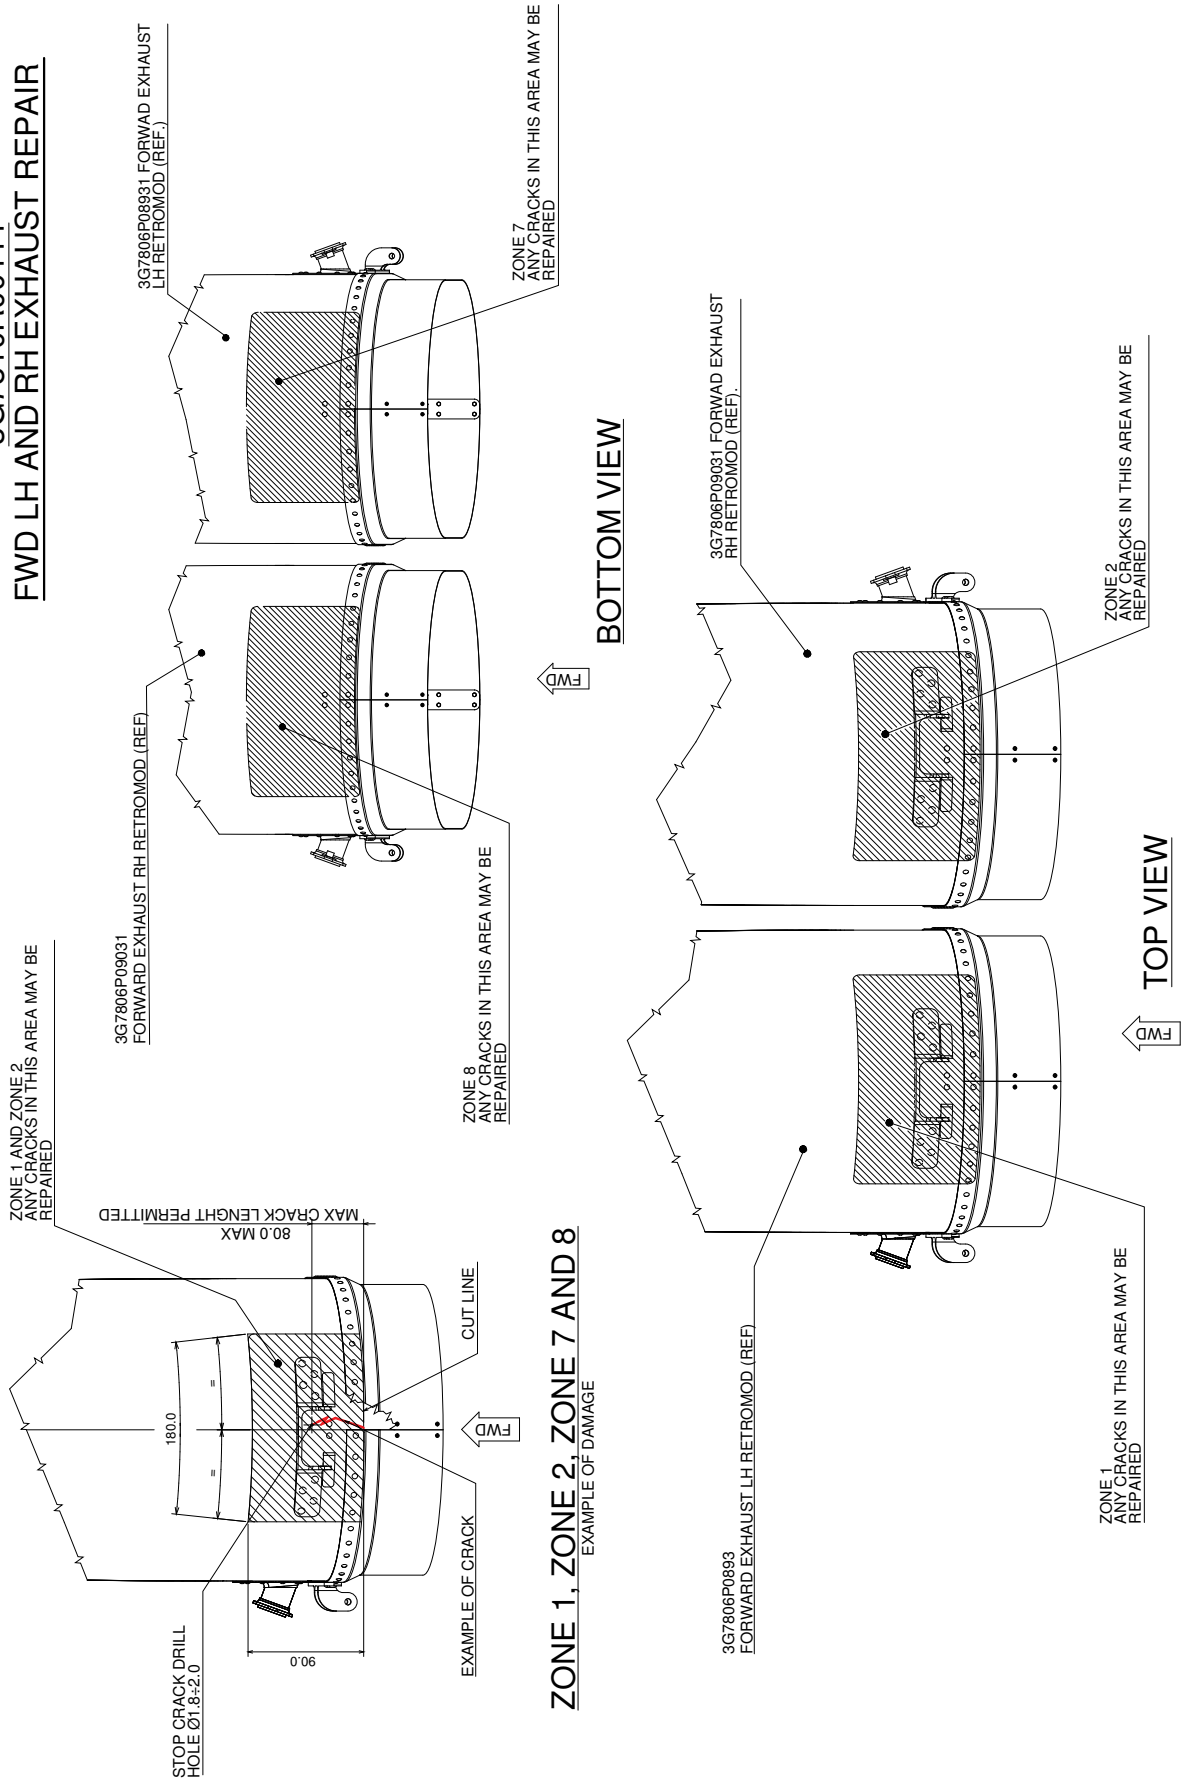

Figure 22
2. With reference to Figure 22 perform a visual inspection of the zone 7 of forward exhausts LH. If you find a crack with a length within the max allowable, perform the following steps. Otherwise contact AW139 Customer Support Engineering (cse.aw139.aw@leonardocompany.com) to receive proper instruction.
2. With reference to Figure 22 perform a visual inspection of the zone 8 of forward exhausts RH. If you find a crack with a length within the max allowable, perform the following steps. Otherwise contact AW139 Customer Support Engineering (cse.aw139.aw@leonardocompany.com) to receive proper instruction.